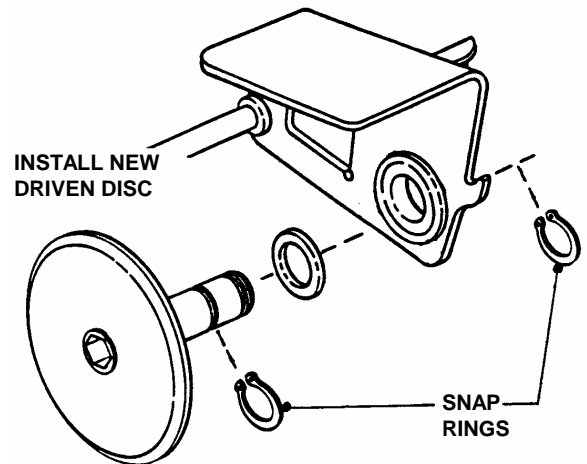

FIGURE 4.14
3. Remove the two retaining rings which secure the rubber driven disc to the driven disc assembly. See Figure 4.14.